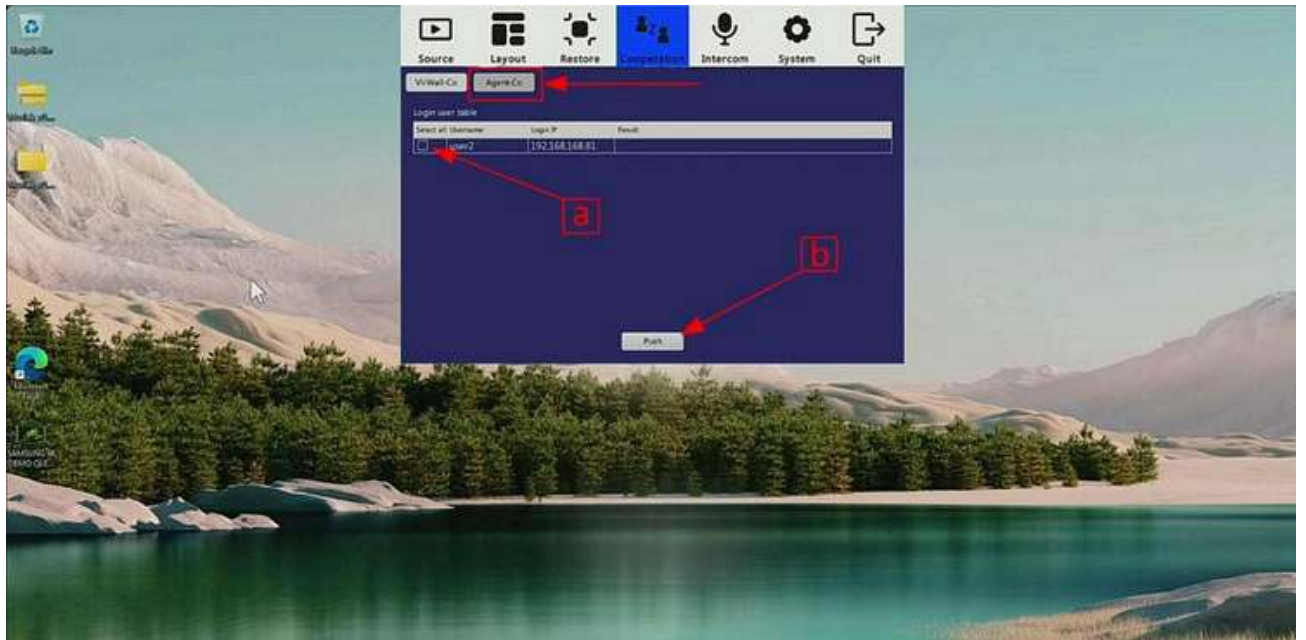

Figure 70
- **Agent-Co:** Clicking this option will allow the User to send the content on their monitor to another user. To do so, a) check the box for the user you want to send the content to and, b) click "Push" Figure 70